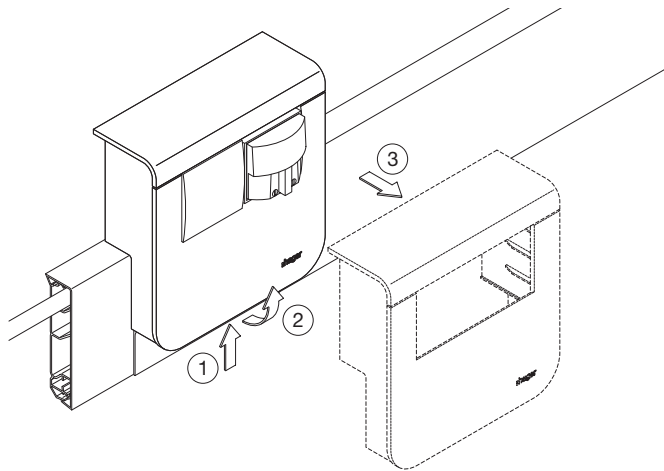

Figure 10
1. Release (fig. 10)
2. Remove the top part (fig. 10)